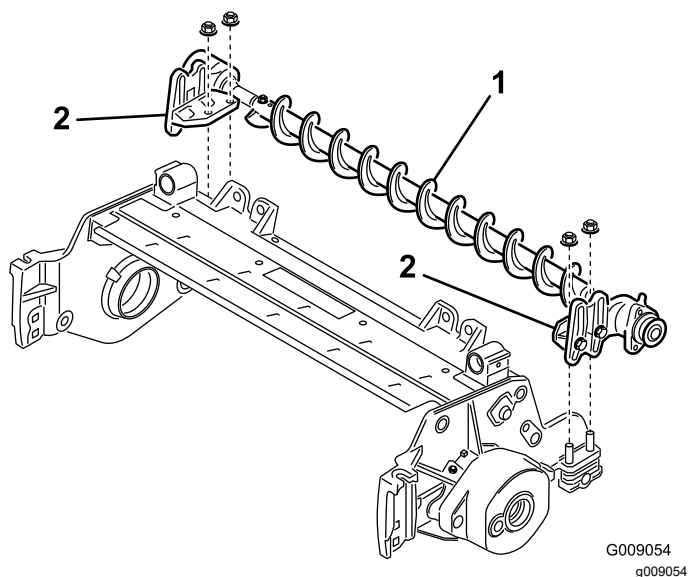

Figure 8
8. Position the roller brush assembly mounting brackets onto the roller bracket bolts (Figure 8). Secure the brush assembly mounting brackets to the cutting unit side plates with the nuts previously removed.